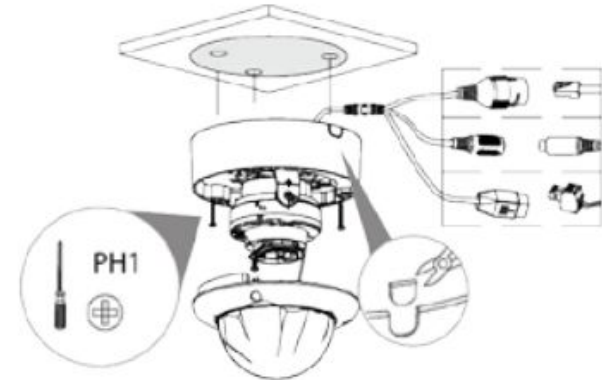
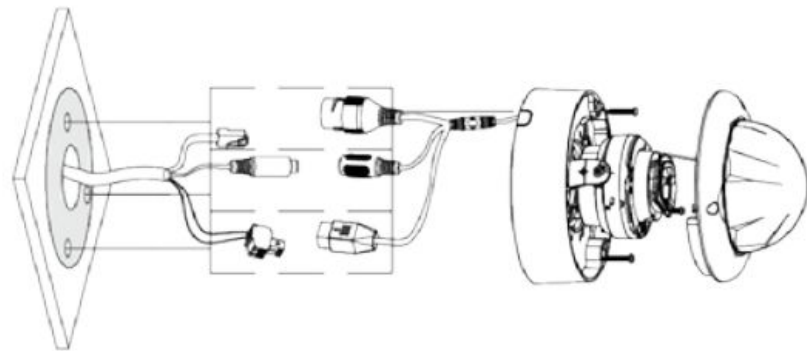

Figure 2-3
Figure 2-4
Step 3 Remove the dome from the camera body. Thread and connect the necessary wires through the cable exit. Use the Phillips head screws to mount the camera body to the anchor screws. See Figure 2-3 for side exit cabling example and Figure 2-4 for mounting surface exit cabling.